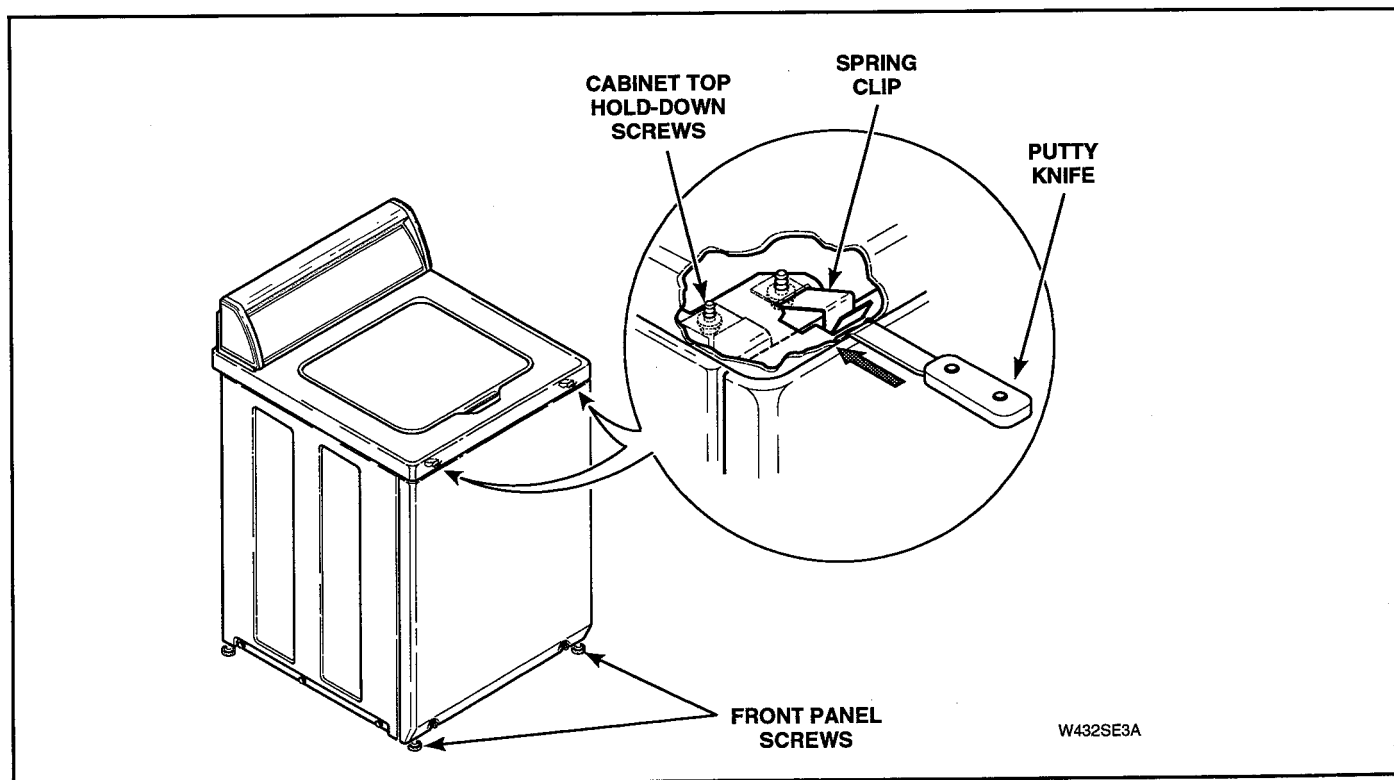

Figure 5-21
**NOTE:** Top edge of front panel is held in place by two spring clips located on bottom flange of cabinet top. See Figure 5-21.
- Insert putty knife between cabinet top and top edge of front panel (approximately three inches in from side). See Figure 5-21.
- Remove two cabinet top hold-down screws. See Figure 5-21.